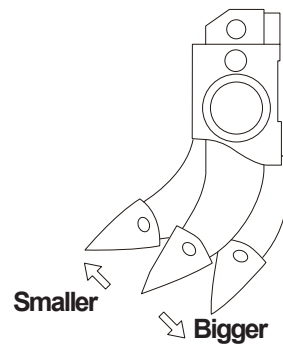

Figure 2-15b
Press the button in the center of the control lever to move the control lever to location (1), and the cutting angle of the ripper will become smaller (Figure 2-15b); if it is moved to location (3), the cutting angle of the ripper will become bigger.